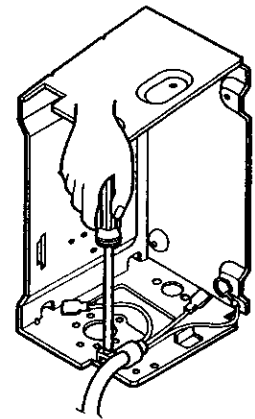

Figure 35
5. Pull the power cord. (See Figure 35)